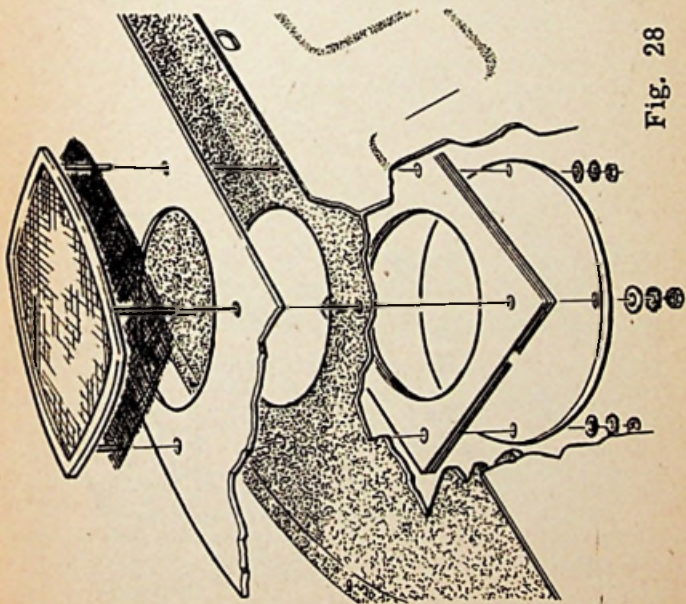

Fig. 28
- (1) Remove rear seats
- (2) Remove rear squab held by PK screws at the base and hook brackets at the top.
- (3) Remove rear trimmed parcel tray
- (4) Locate semi-pierced circular aperture on right hand underside of trimmed parcel tray. Cut and trim aperture and pierce four pre-marked holes about aperture for fixing studs of loudspeaker bezel and grill as shown in Fig. 28.
- (5) On Super Snipe, V only, remove circular pre-cut felt on metal parcel tray to expose aperture.
- (6) Replace trimmed parcel tray.
- (7) Connect loudspeaker lead to loudspeaker. Assemble loudspeaker, baffle board, loudspeaker bezel and grille to
metal parcel shelf and trimmed parcel tray as shown in Fig. 28.